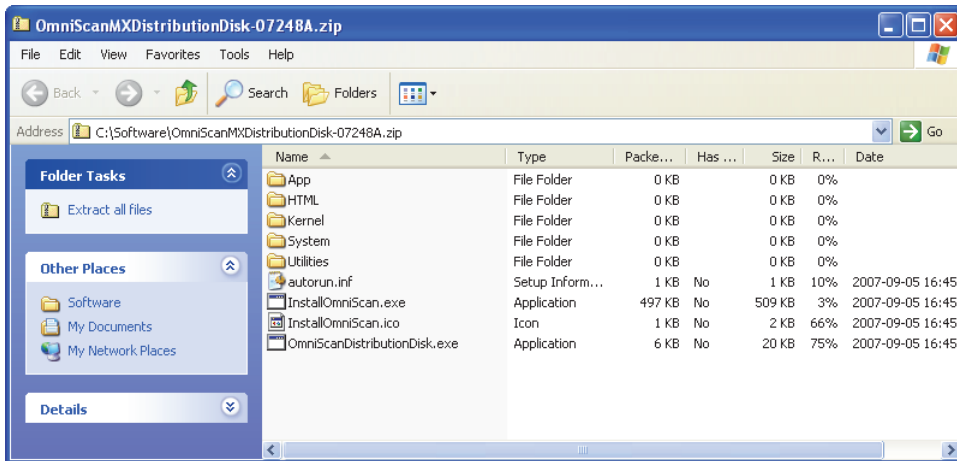

Figure 4-6 Zipped folder for the OmniScan software distribution
- In the zipped folder, under **Folder Tasks**, click **Extract all files** (see Figure 4-6 on page 80).